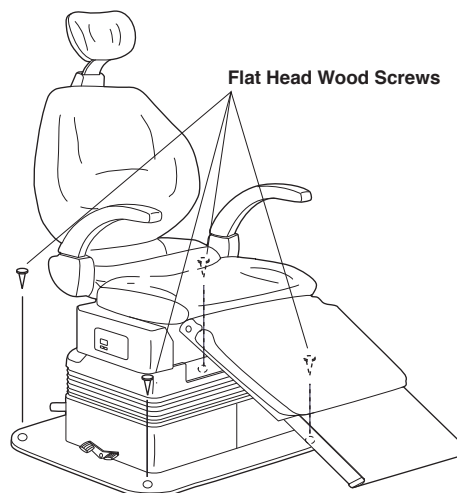

Fig. 3-1 Fixing chair on the floor
Chair base fixing points are shown in figure 3-1.
7) Chair Rotation (See Fig.3-1.)